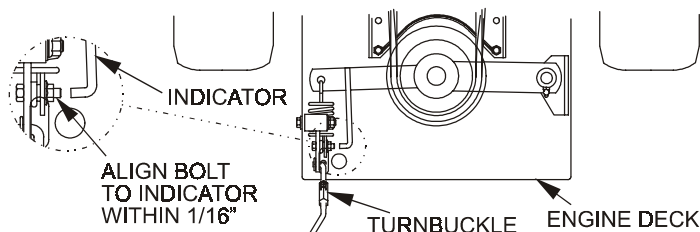

FIG. 15
- c) Look through the round hole in the left rear corner of the engine deck to inspect blade clutching belt tension. Bolt on blade engagement linkage bellcrank and indicator arm should align within 1/16" (See fig. 15). Refer to section 5.2.2 for adjustment.
- b) With blade drive engaged, adjust the linkage length by loosening the locknut on the turnbuckle and adjusting the turnbuckle so that the bolt on the bellcrank and the indicator arm align with each other within 1/16". See Figure 15. Tighten locknut against turnbuckle.